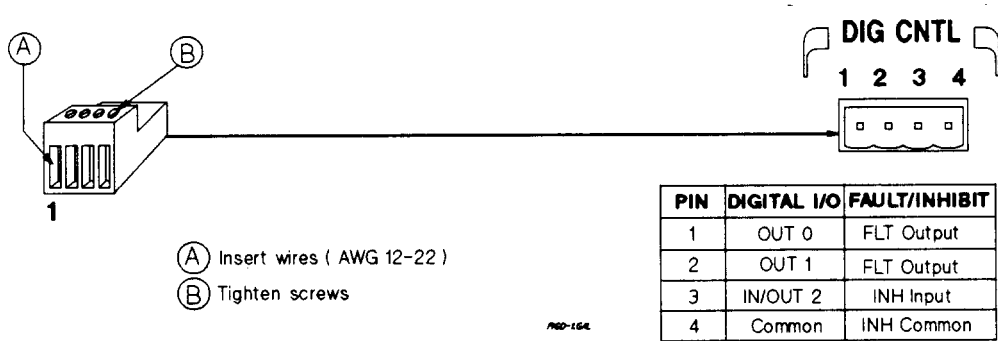
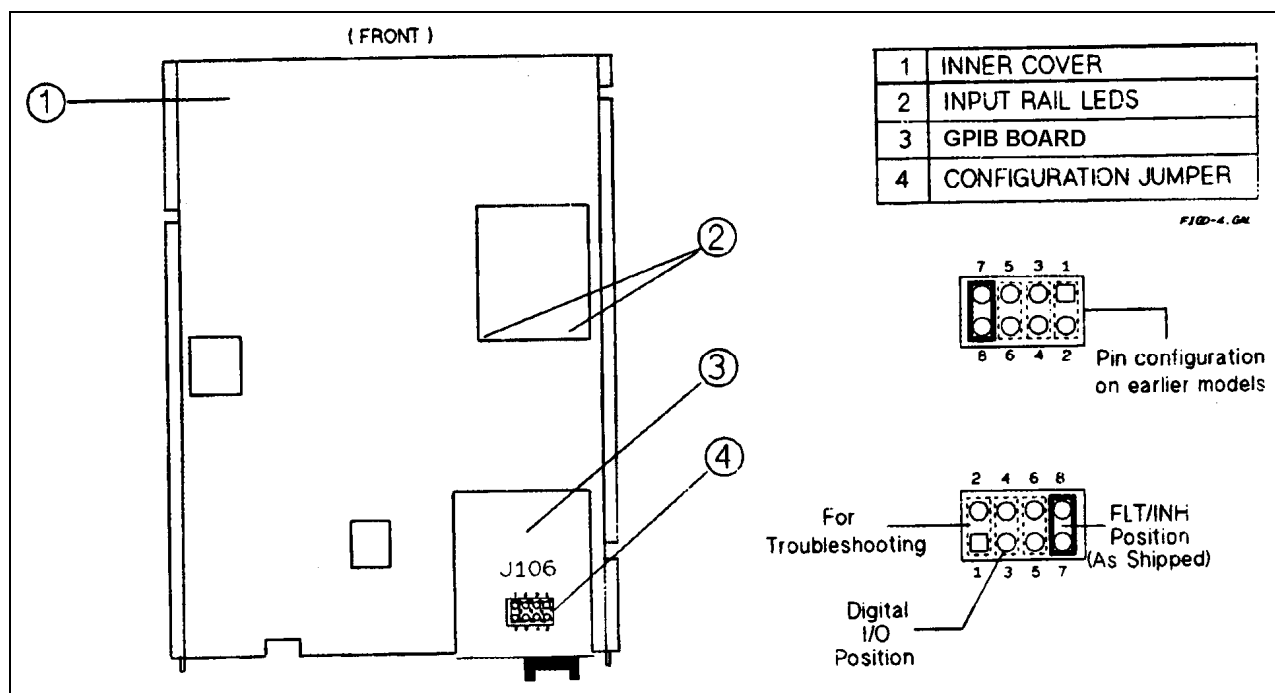
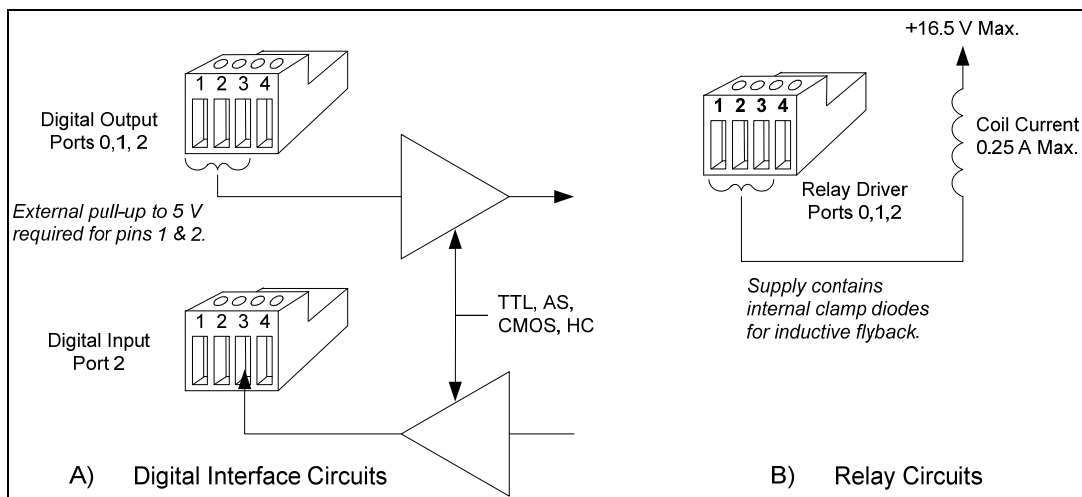

Figure D-1. Digital Port Connector
Figure D-4. Digital Port Configuration Jumper
Figure D-5. Digital I/O Port Applications
A 4-pin connector and a quick-disconnect mating plug are provided for digital input and output signals (see Figure D-1 for wiring connections, and Table 1-5 in Chapter 1 for electrical characteristics). This digital port can be configured to provide either Fault/Inhibit or Digital I/O functions.
As shipped from the factory, the digital port is configured for FLT/INH operation. You can change the configuration of the port to operate as a general-purpose digital input/output port to control your custom circuitry as shown in Figure D-4. To change the port configuration, you must move a jumper on the GPIB board.
5. Refer to Figure D-4 and use needle-nose pliers to move the jumper to the Digital I/O position.
The digital port can be configured (see Figure D-4) to provide a digital input/output to be used with custom digital interface circuits or relay circuits. Some examples are shown Figure D-5. See Figure D-1 for the pin assignments of the mating plug and Table 1-5 for the electrical characteristics of the port. See **DIG:DATA[:VAL]** in “Chapter 3 - Language Dictionary” of the Programming Guide for information on programming the port. The digital port pins are as follows:
The digital port can be configured to provide relay control outputs for the Agilent 59510A or 59511A Relay Accessory. Refer to Figure D-1 for the pin assignments of the mating plug.